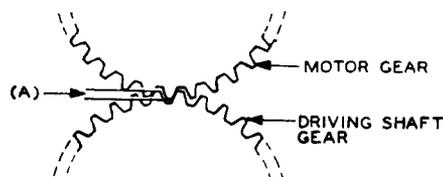

Fig. 3 - Engagement of Motor and Driving Shaft Gears
(2) Fig. 3(A) - The teeth of the motor and driving shaft gears shall engage vertically for